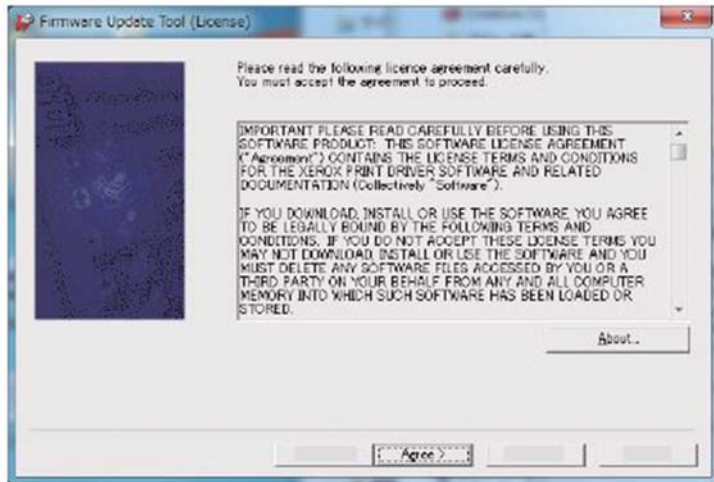

Figure 1 License agreement
8. Touch **Agree** on the Firmware Update Tool (License), Figure 1.